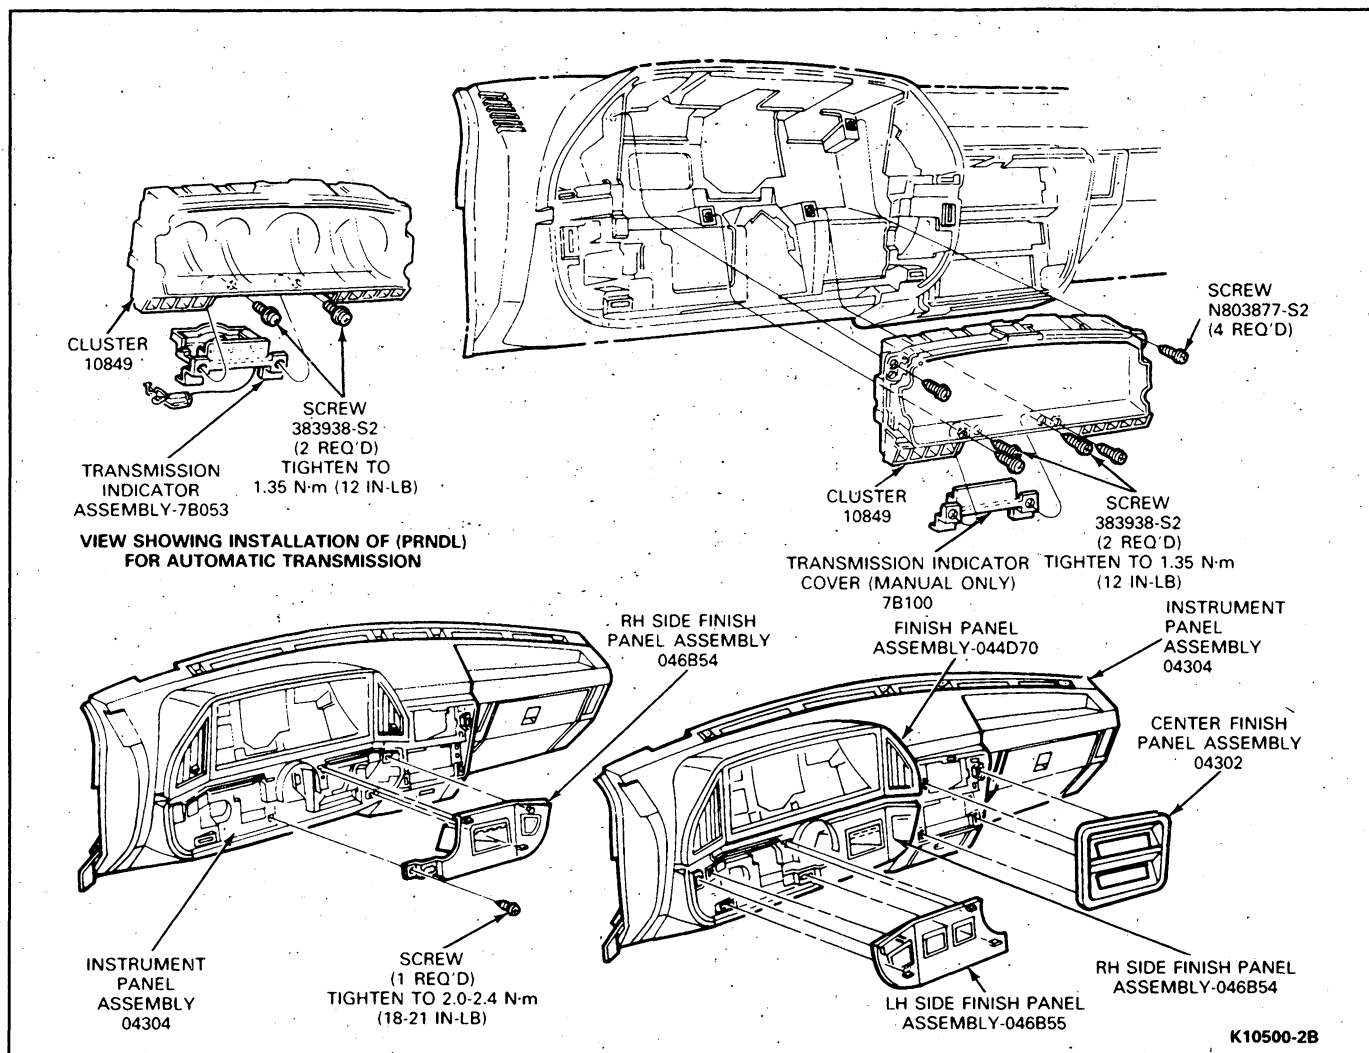

FIG. 7 Instrument Cluster—F-150—F-350 and Bronco
4. Remove the finish panel assembly (Fig. 7).